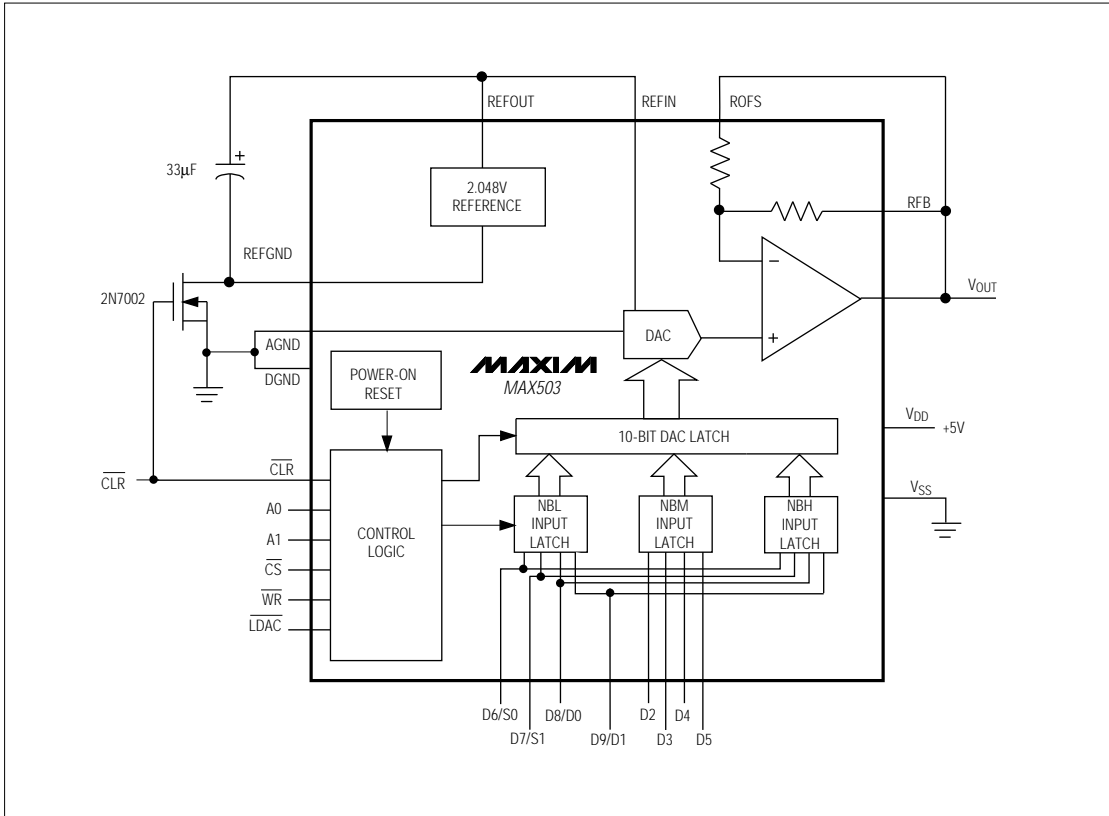

Figure 3. Low-Current Shutdown Mode
An additional 110µA of supply current can be saved when the internal reference is not used by connecting REFVDD to VDD. A low on-resistance N-channel FET, such as the 2N7002, can be used to turn off the internal reference to create a shutdown mode with minimum current drain (Figure 3). When CLR is high, the transistor pulls REFVDD to AGND and the reference and DAC operate normally. When CLR goes low, REFVDD is pulled up to VDD and the reference is shut down. At the same time, CLR resets the DAC register to all 0s, and the op-amp output goes to 0V for unity-gain and G = 2 modes. This reduces the total single-supply operating current from 250µA (400µA max) to typically 40µA in shutdown mode.
In order to provide hardware and software compatibility with the 12-bit MAX530, the MAX503 employs a 12-bit digital interface. As shown in Figure 3, there is actually a 12-bit input latch, and therefore 12 bits of data should be written. The two least significant bits (S1 and S0) are sub-LSB, and must always be 0s. Designed to interface with 4-bit, 8-bit, and 16-bit microprocessors (μPs), the MAX503 uses 8 data pins and double-buffered logic inputs to load data as $4 + 4 + 4$ or $8 + 4$. The 12-bit DAC latch is updated simultaneously through the control signal LDAC. Signals A0, A1, WR, and CS select which input latches to update. The 12-bit data is broken down into nibbles (NB); NBL is the enable signal for the lowest 4 bits (S0, S1, D0, D1), NBM is the enable for the middle 4 bits, and NBH is the enable for the highest and most significant 4 bits. Table 2 lists the address decoding scheme.